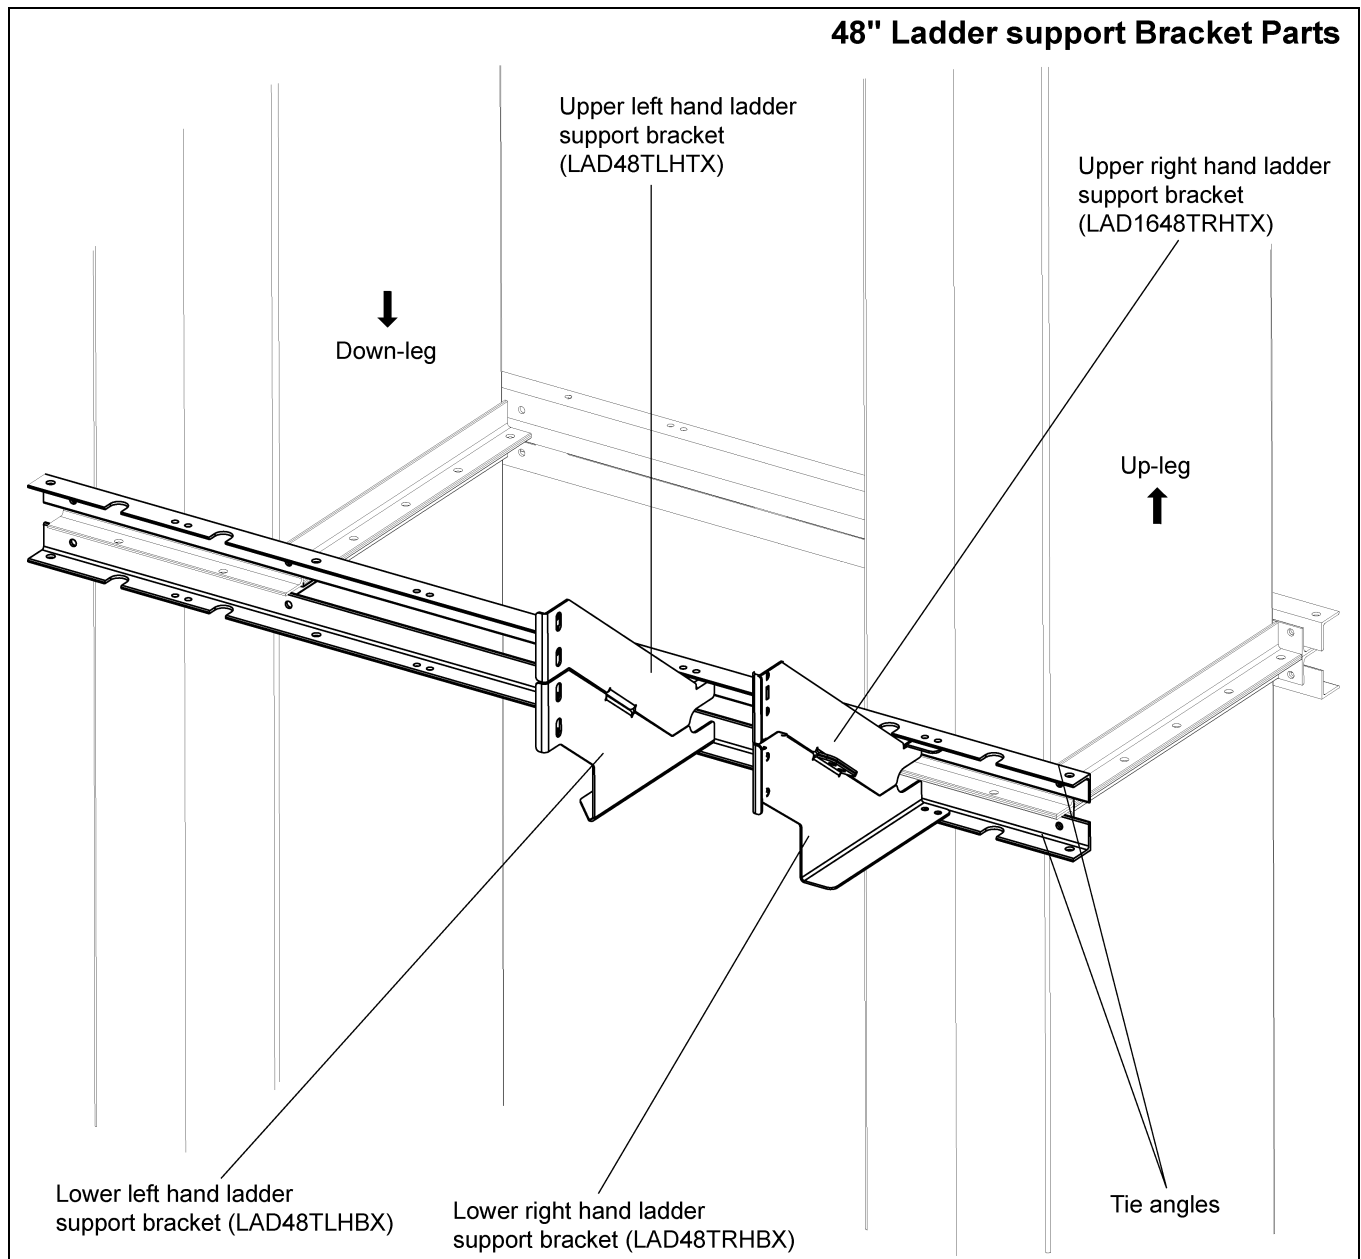
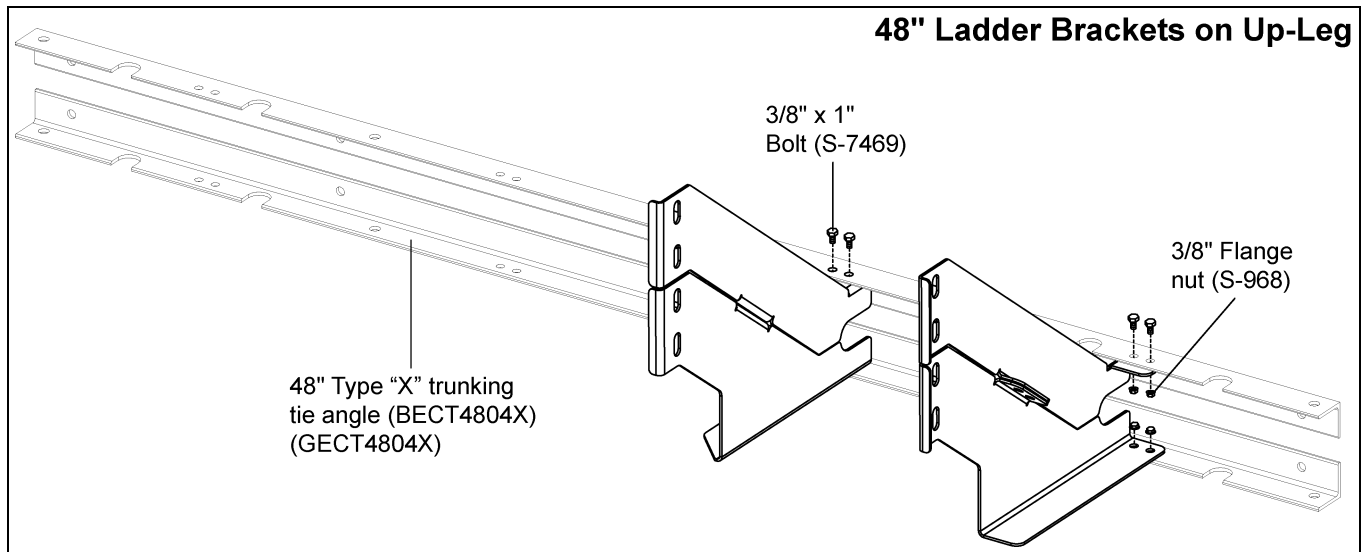
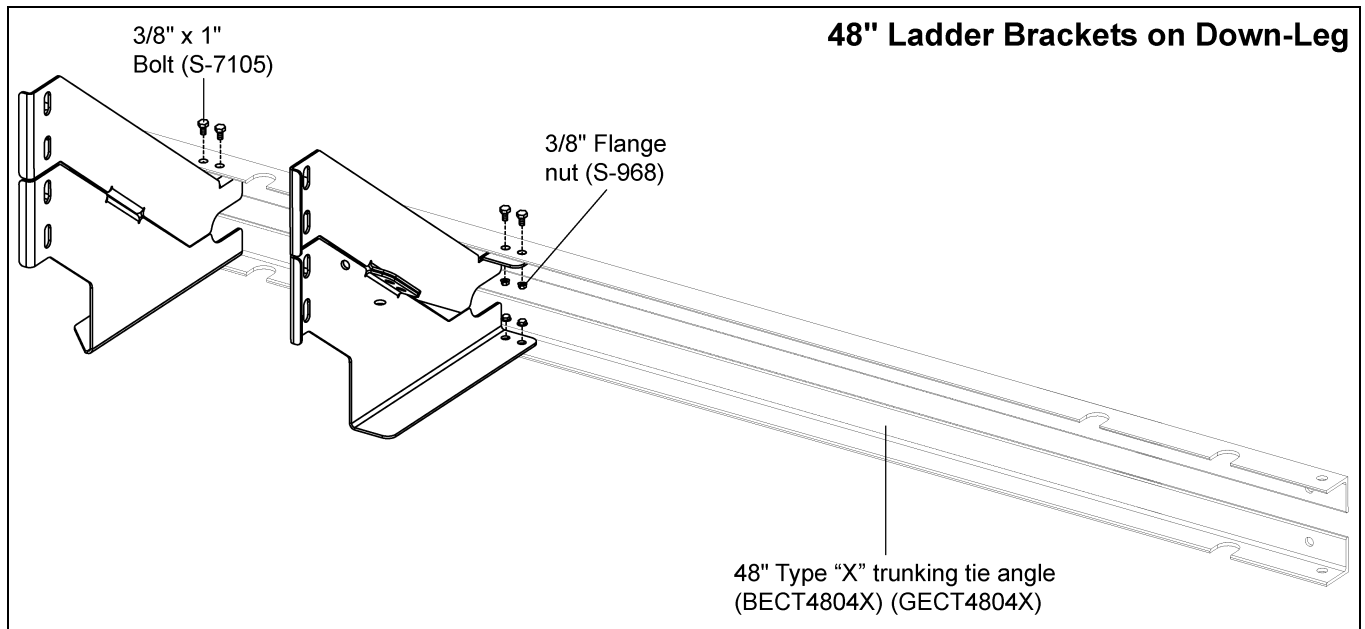

Figure 6R 48" Ladder Support Bracket Parts
Figure 6S 48" Ladder Bracket Location for Up-Leg
Figure 6T 48" Ladder Bracket Location for Down-Leg
3. Fasten flanges of brackets and brackets to tie angles using 3/8" x 1" HHCS bolts (S-7469) and 3/8" flange nuts (S-968). (See Figure 6R below, Figure 6S and Figure 6T on Page 34.)